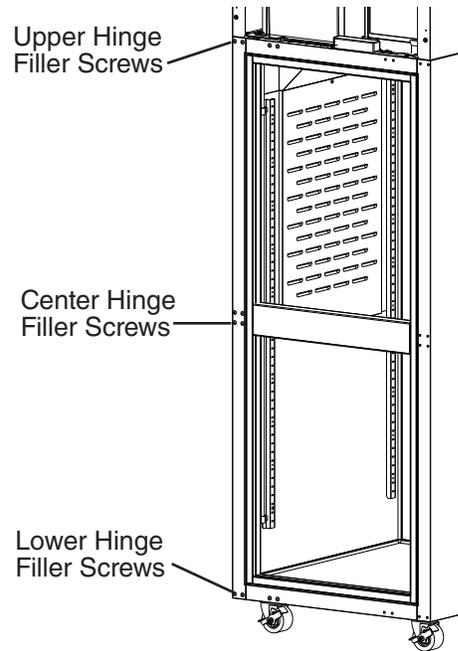

**Fig. 57**
9) Open the lower door. Using a screwdriver, unhinge the lower hinge arm from the lower hinge bracket. See Fig. 57